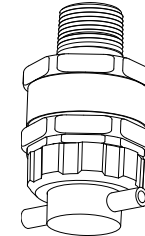

Figure 214. MPD with Flow Housing
**Figure 214** shows the flow housing accessory fitted to the MPD.